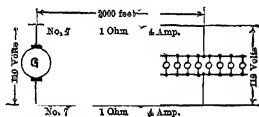

FIG. 100. Two-wire system. The 2 line wires each carry 8 times the current of 1 lamp.
**47. Relation of Voltage to Watts Lost in the Line.** Let us assume that we wish to use eight 110-volt lamps, each taking  $\frac{1}{2}$  ampere, as in Fig. 100. The lamps are 2000 feet from the generator and No. 7 wire is used, which makes about 1 ohm per wire.
The line, then, has to carry only 2 amperes and being the same wire as in Fig. 100 has a total resistance of 2 ohms.
which is the same as in the 110-volt line of Fig. 100, which used 4 times as large a wire.